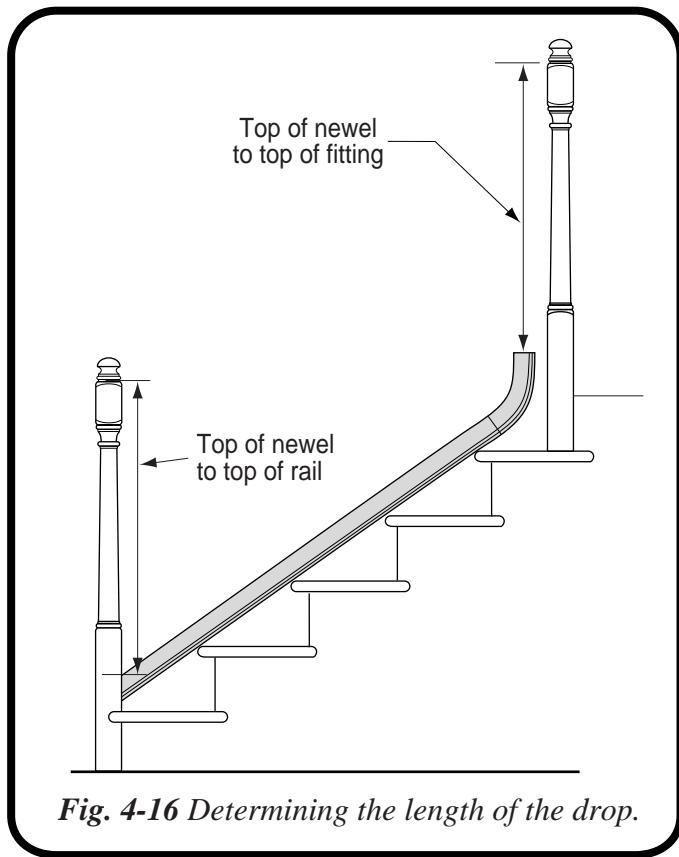

Fig. 4-16 Determining the length of the drop.
12. Measure the distance from the top of the rail to the top of the bottom newel. Please note Fig. 4-16 here.